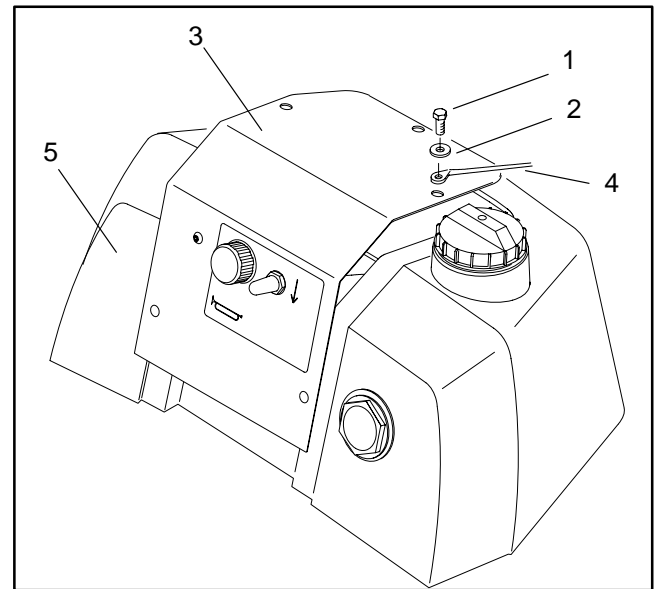

Figure 90
4. Remove five cap screws and flat washers securing the cover plate and cap tether to the leak detection tank. Remove cover plate from tank (Fig. 90).
3. Make sure five capscrews and washers securing the cover plate to auxiliary hydraulic tank are removed with the cover plate (Fig. 90).